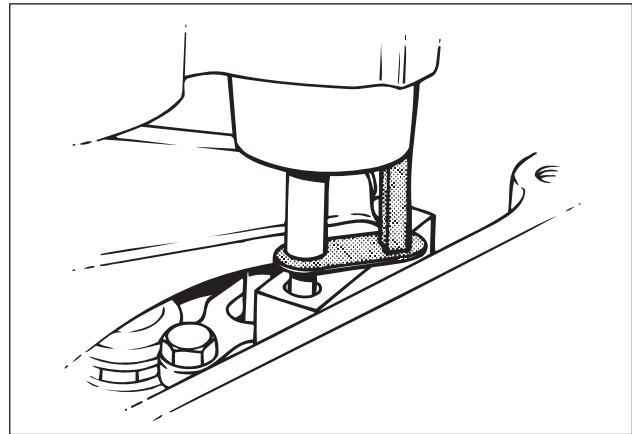

FIG. 7
2. Insert the appropriate brake lash feeler gauge (P/N 3163681(0.090") or P/N 5572956 (0.067" for L9 2021)) between the brake slave piston and exhaust head pin on cylinder one. (Fig. 7, 8)
8. Repeat steps 2-4 for cylinders 1, 3, and 5. (Fig. 7, 8)